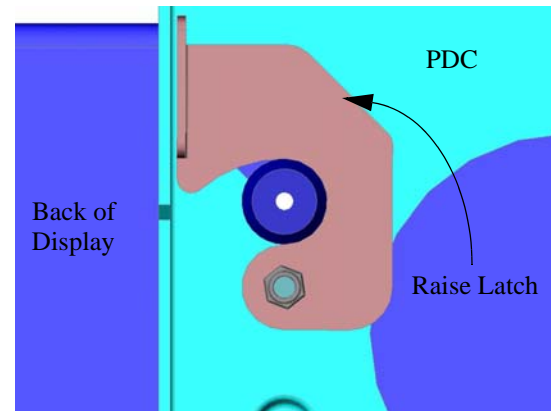

Figure 3. Engage Latch
- Secure the display to the PDC by completely engaging the latch (see Figure 3).